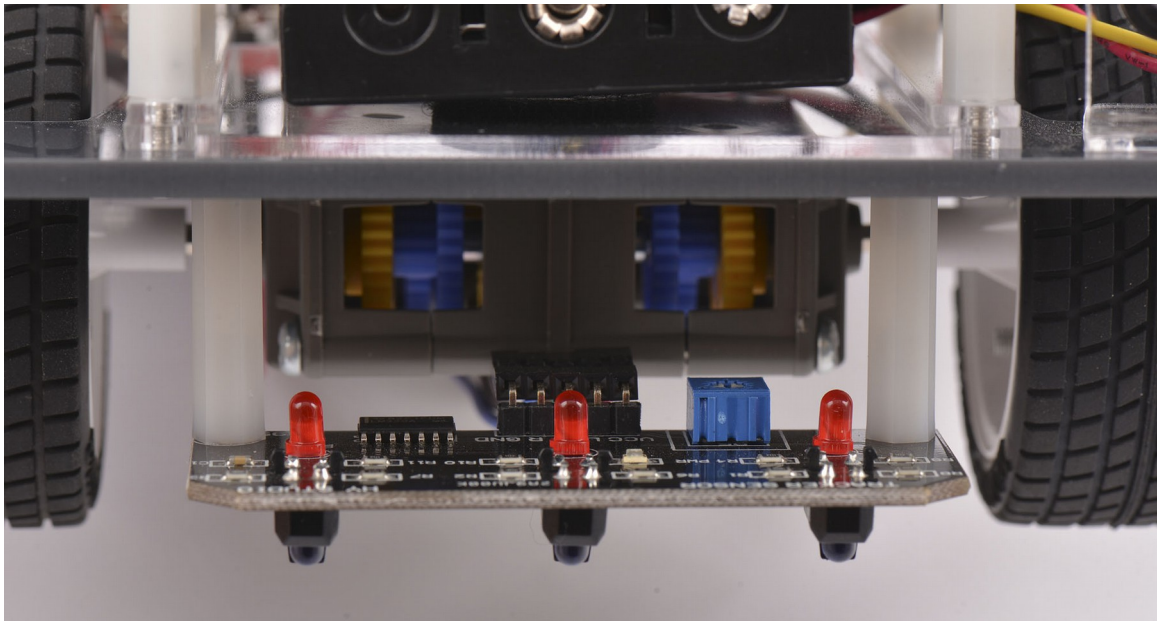

Figure 2.28
The last sensor to be installed is the line sensor as shown in figure 2.28. The standoffs for the sensor are already attached to your Pi-Bot body. Attach the sensor to the standoffs using two (2) 4-40 screws.